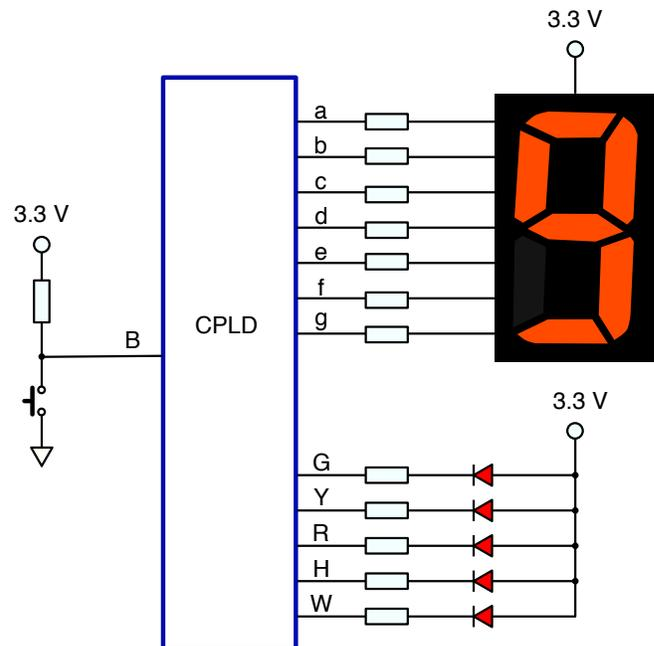

Figure 26. Zebra controller schematic.
6. Place a switch input, a 7-segment display, 5 color LEDs, and 12 current limiting resistors on your breadboard. Connect them to the CPLD according to Figure 26.